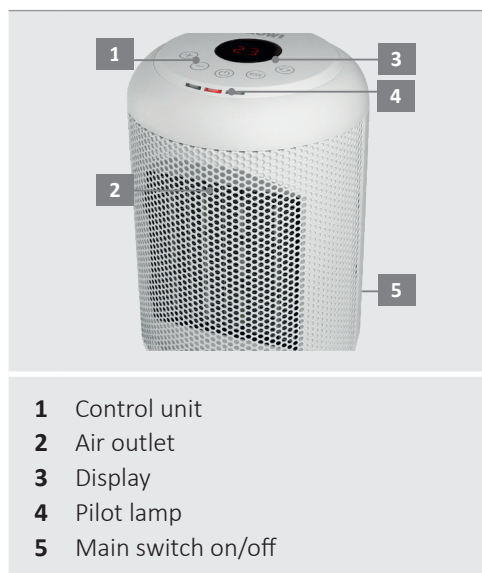

Fig.1: Appliance overview
1. Make sure that the **main switch** (see fig. 1, no. 5) is set to "0". Then connect the ceramic appliance to an earthed socket protected with an earth-leakage circuit breaker.
2. Then press the **main switch** (Fig.1, No. 5) on the back of the appliance to switch off the appliance completely.